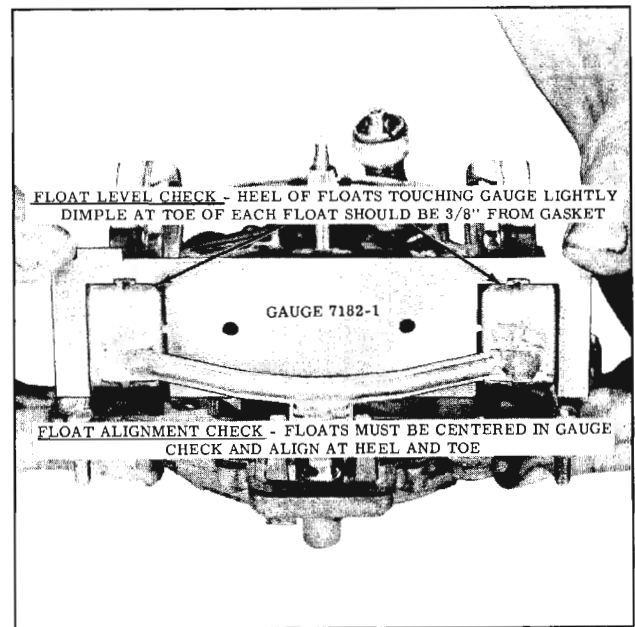

Fig. 9-19 Checking Secondary Float Level and Alignment
1. With the gasket in place and the air horn inverted, position gauge as shown in Fig. 9-19.